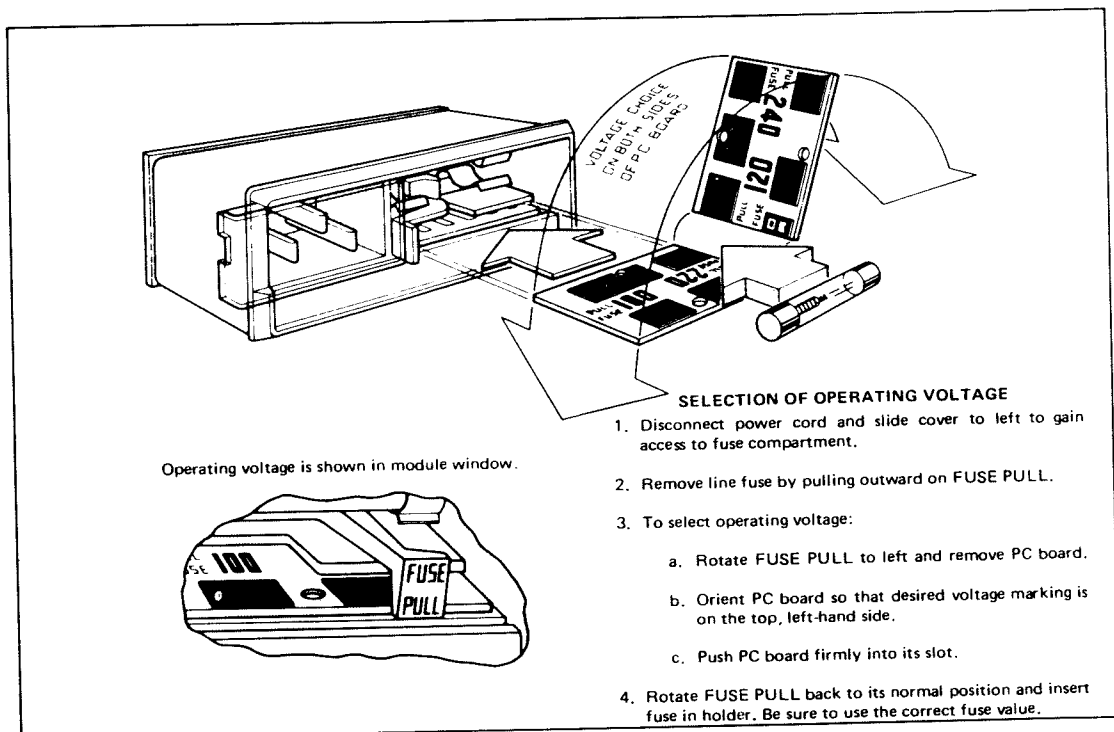

Fig. 2.4 Power Line Voltage Selection (shown for 100 V)
- (e) Refer to Figure 2.4 and orient the voltage selector board within the "AC IN" power receptacle for the line voltage to be used (100 V, 120 V, 220 V, or 240 V).